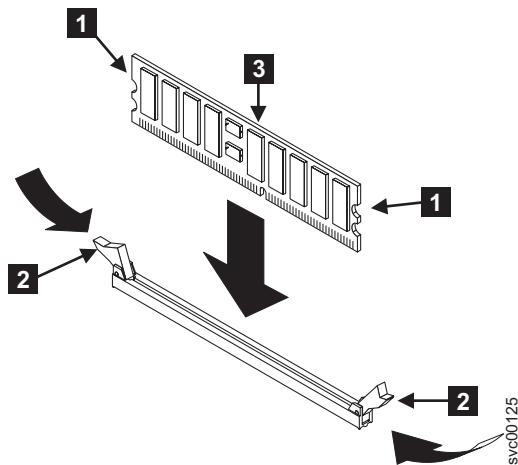

Figure 96. Replacing a memory module
- With the clips **2** open, lower the memory module **3** into the connector, as shown in Figure 96 on page 113. Insert the DIMM fully to close the clips.